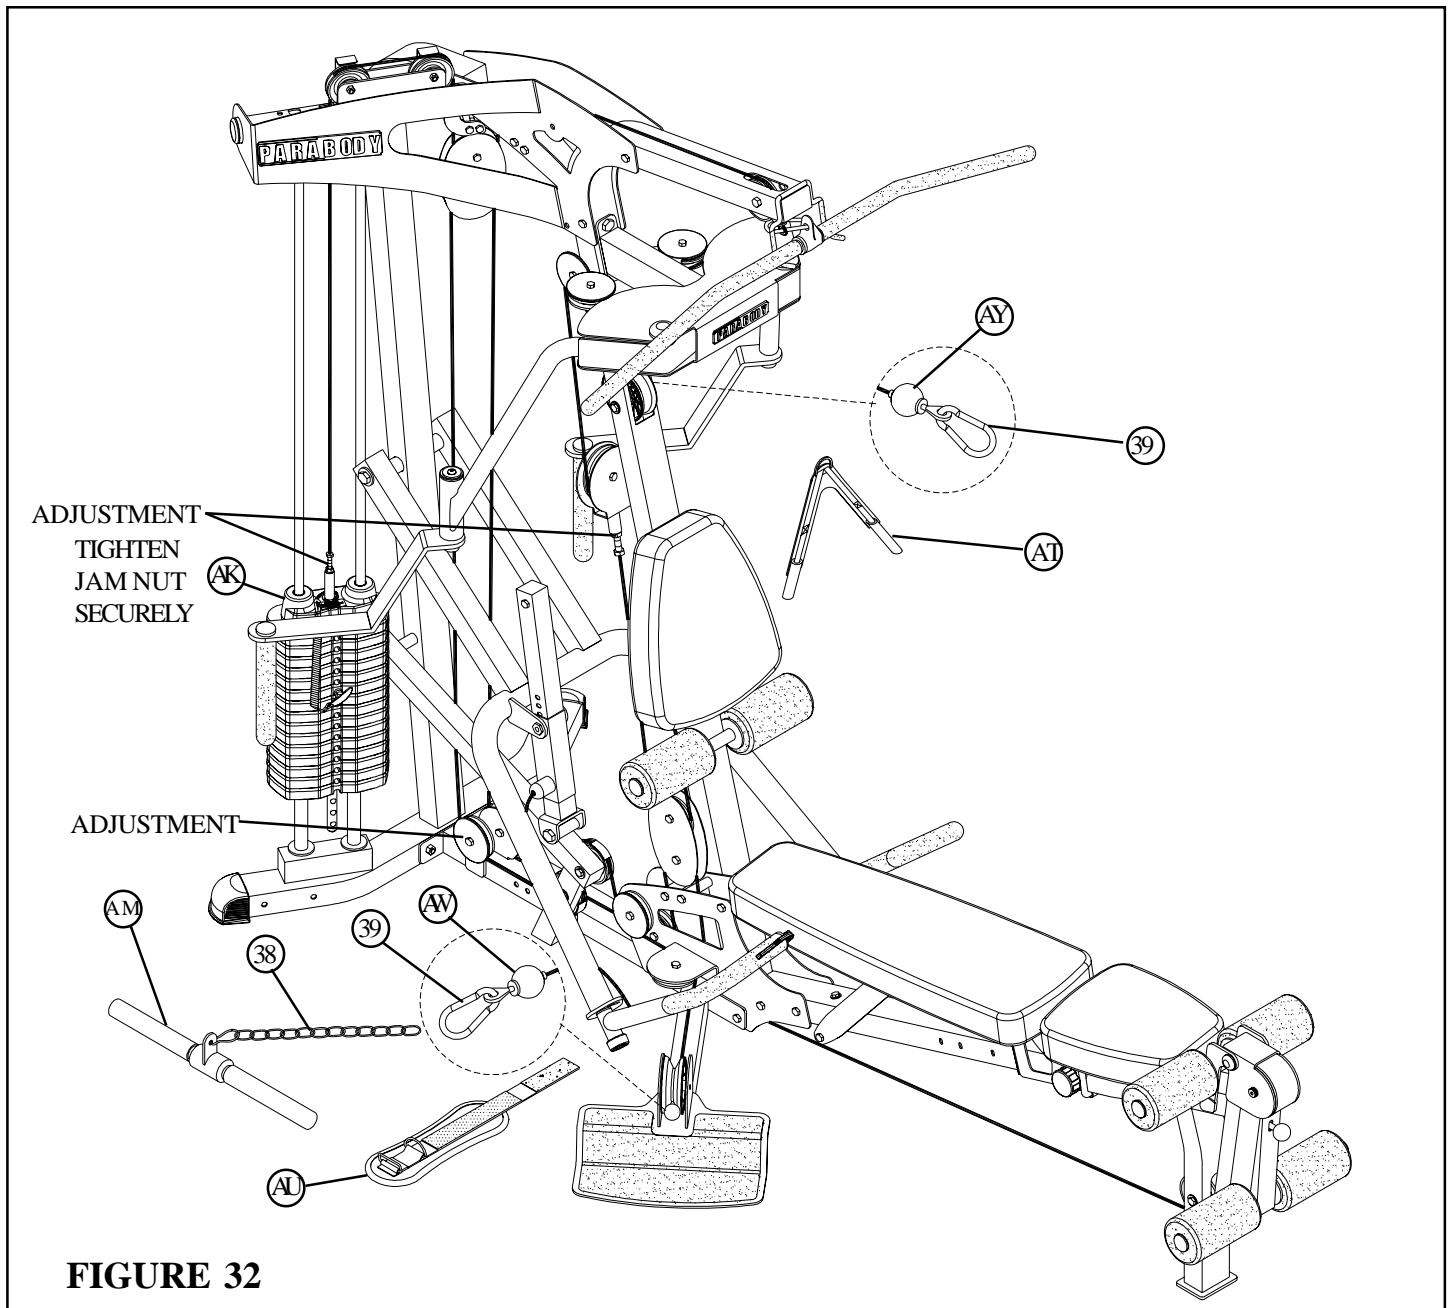

FIGURE 32
- If upon completion of assembly, the HEAD PLATE (AK) does not sit on top of the first WEIGHT PLATE, push the HEAD PLATE (AK) down, insert the WEIGHT SELECTOR PIN and perform several repetitions at the press station. This will relax the cable system and prevent the HEAD PLATE (AK) from lifting up. See FIGURE 32.
- If after completing previous step, the HEAD PLATE (AK) still does not sit on top of the first WEIGHT PLATE or if there is excess slack in the cable system, adjust the threaded end of the LAT CABLE (AV) and FLOATING PULLEY BRACKET (W) accordingly and retighten the jam nuts. See figure 32.
- For maximum performance, the HEAD PLATE (AK) should just barely sit on the top WEIGHT PLATE
- Attach the LOW ROW BAR (AM) to the ball end of LAT CABLE (AV) using one SNAP LINK (39) as shown in FIGURE 32.
- Attach the ANKLE STRAP (AU) to the 12 LINK CHAIN (38) using one SNAP LINK (39) as shown in FIGURE 32
- Attach the AB STRAP (AT) to the ball end of LOW CABLE (AW) using one SNAP LINK (39) as shown in FIGURE 32.